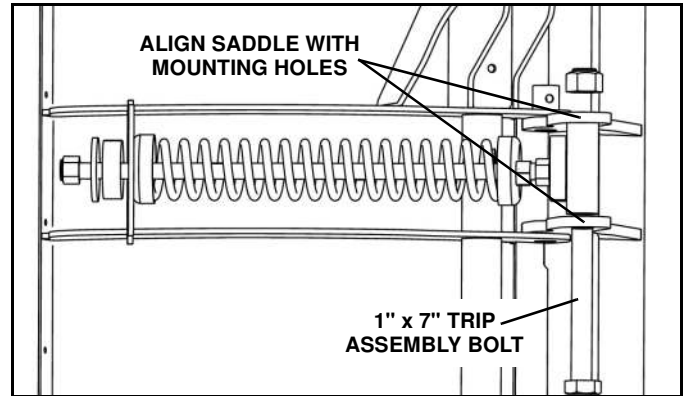

Figure 1-10
9. Apply a thin coating of grease to the main trip bolt shank (See Figure 1-10)